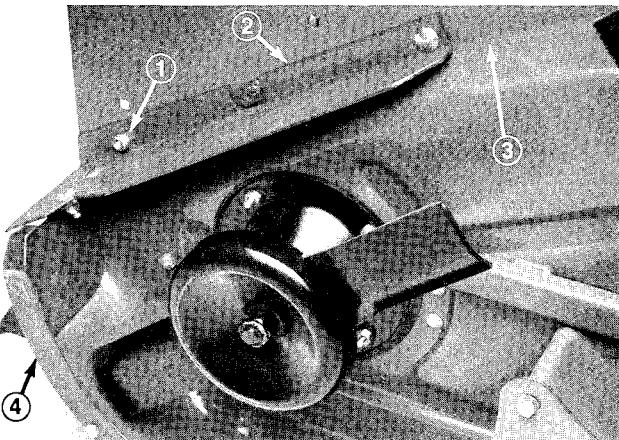
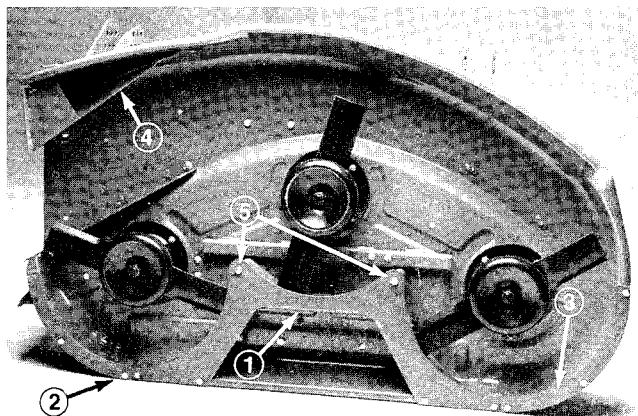

Figure 7
Figure 8
8. Using rearmost deflector mounting hole in deck, loosely mount outside end of rear baffle to deck with a 5/16-18x5/8" lg. carriage bolt and locknut (Fig. 7).
10. Position and secure center ring baffle to deck bosses with (2) 1/4-20x3/4" lg. self tapping screws and washers (Fig. 8).
11. Using center ring baffle as a template, mark and drill (4) 9/32" dia. holes thru center of curved edge of deck (Fig. 8).
12. Secure center ring baffle to deck with (4) 1/4-20x 3/4" lg. capscrews and nuts.
13. Loosely mount right ring baffle to rear baffle with (2) 5/16-18x5/8" lg. carriage bolts and locknuts (Fig. 7).
14. Align right ring baffle with end of center baffle and edge of deck. Mark and drill (2) 9/32" dia. holes in curved edge of deck (Fig. 7).
15. Secure right baffle to deck with (2) 1/4-20x3/4" lg. capscrews and nuts. Remove carriage bolt securing right baffle to deflector mounting hole. Tighten all previously installed fasteners.
16. Align left ring baffle with end of center baffle and edge of deck. Mark and drill (3) 9/32" dia. holes thru center of curved edge of deck. Secure with (3) 1/4-20x3/4" lg. capscrews and nuts (Fig. 8).